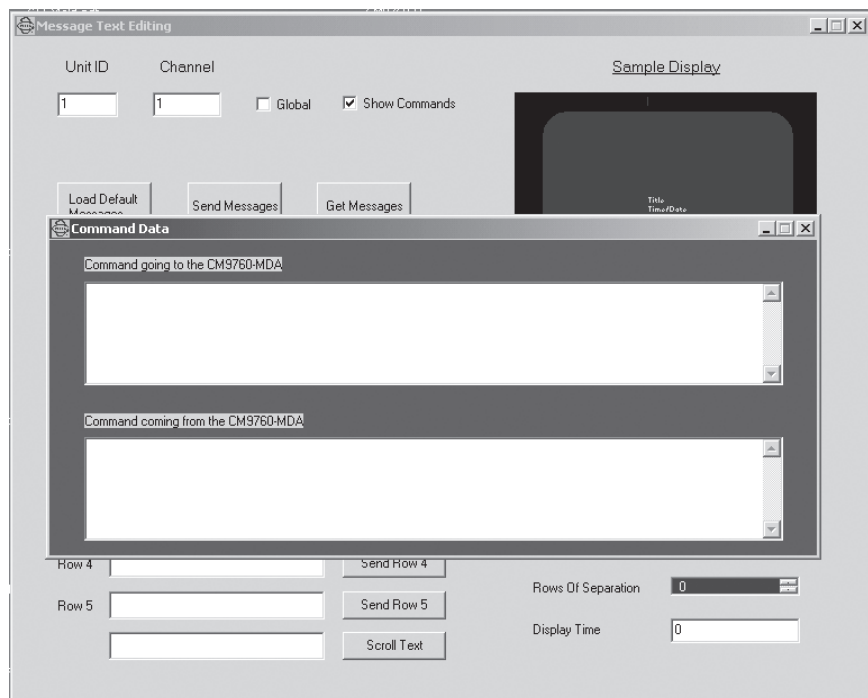

Figure 32. Command Data Window
- a. Select the Show Commands checkbox. The Command Data window, Figure 32, appears in front of the Message Text Editing dialog box.